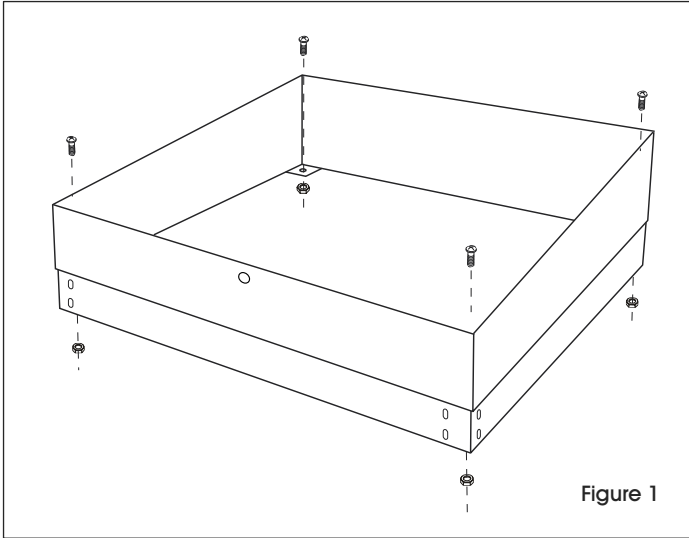

Figure 1
1. Attach square bracket to underside of desk using 4 standard bolts and nuts. (See Figure 1)